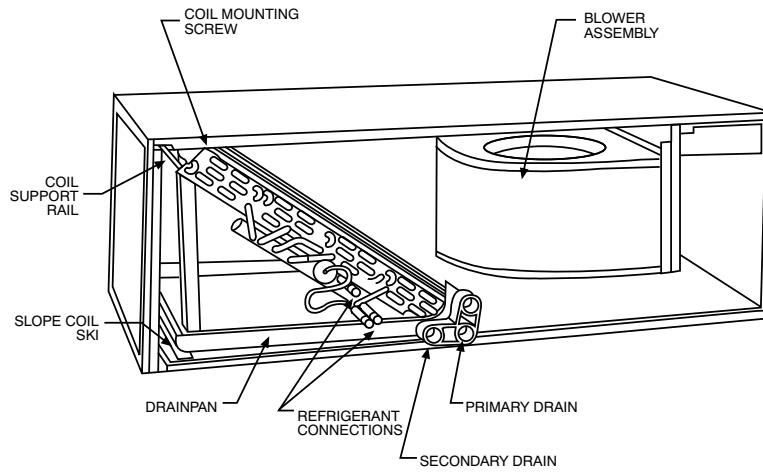

Fig. 4 – Conversion for Horizontal Right Applications - Slope Coil
4. Lay fan coil on its right side and reinstall coil assembly with condensate pan down (See Fig. 4.)